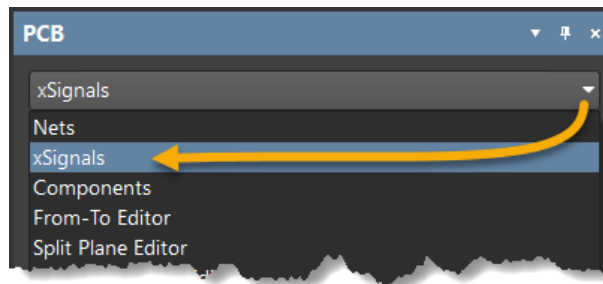

Figure 15. xSignals information from the PCB panel
34. From the drop-down menu in the *PCB* panel, select **xSignals**, as shown in Figure 15.